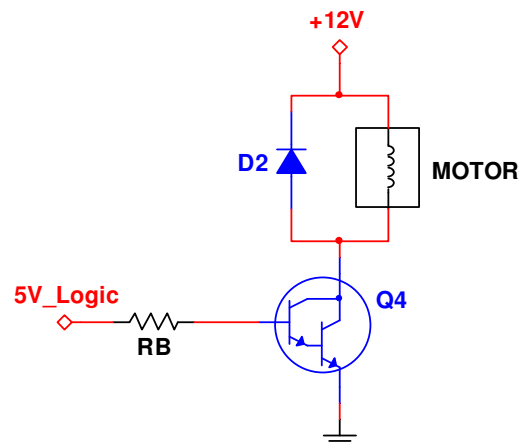

Fig. 4
4) Suppose you want to operate a 12V DC motor that is part of a mechanical pump. Motors are typically specified by a “no-load” current and much larger “stall” current. The no-load or “free running” current is not useful because it means nothing is attached to the motor shaft. The stall current is when the motor is working as hard as it can, but the shaft won’t move due to excessive mechanical load. **A reasonable rule of thumb is to design a motor driver to handle 50 % of the “stall” current.** Consider the motor driver shown in Fig. 4. The design constraints are shown below: